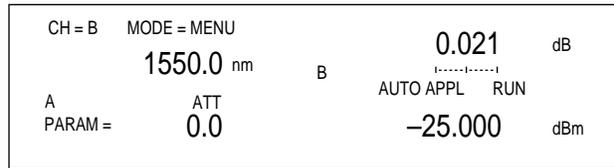
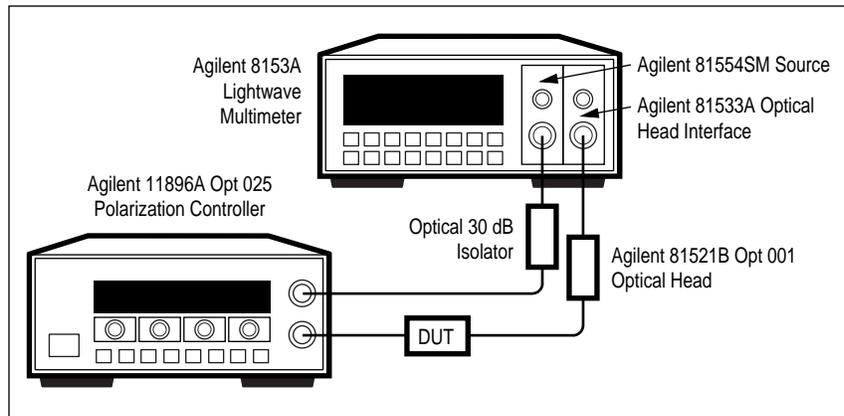

Figure 5. Example of PDL data (0.021 dB) displayed on the Agilent 8153A Lightwave Multimeter
Figure 6. Setup for PDL measurements using the Agilent 8153A/11896A power meter based PDL measurement system
The Agilent 8153A/11896A power meter-based PDL test system provides high-accuracy, single-wavelength, PDL data. During this measurement, the Agilent 8153A Lightwave Multimeter monitors output power variations and displays the PDL values (see Figures 5). The polarization state of the test signal is continually and automatically adjusted using the Agilent 11896A Polarization Controller shown in Figure 6.
10. The measurement is complete. PDL data is displayed in the upper right-hand corner of the Agilent 8153A display (see Figure 5).
11. To begin the next measurement, connect a DUT as shown in Figure 6, press **Exec** two times and return to step #8.